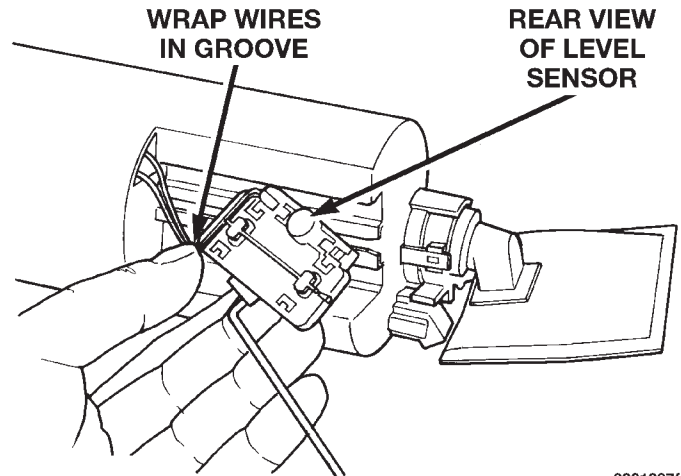

Fig. 25 Groove in Back Side of Level Sensor
(1) Insert level sensor wires into bottom of opening in module.
(2) Wrap wires into groove in back of level sensor (Fig. 25).